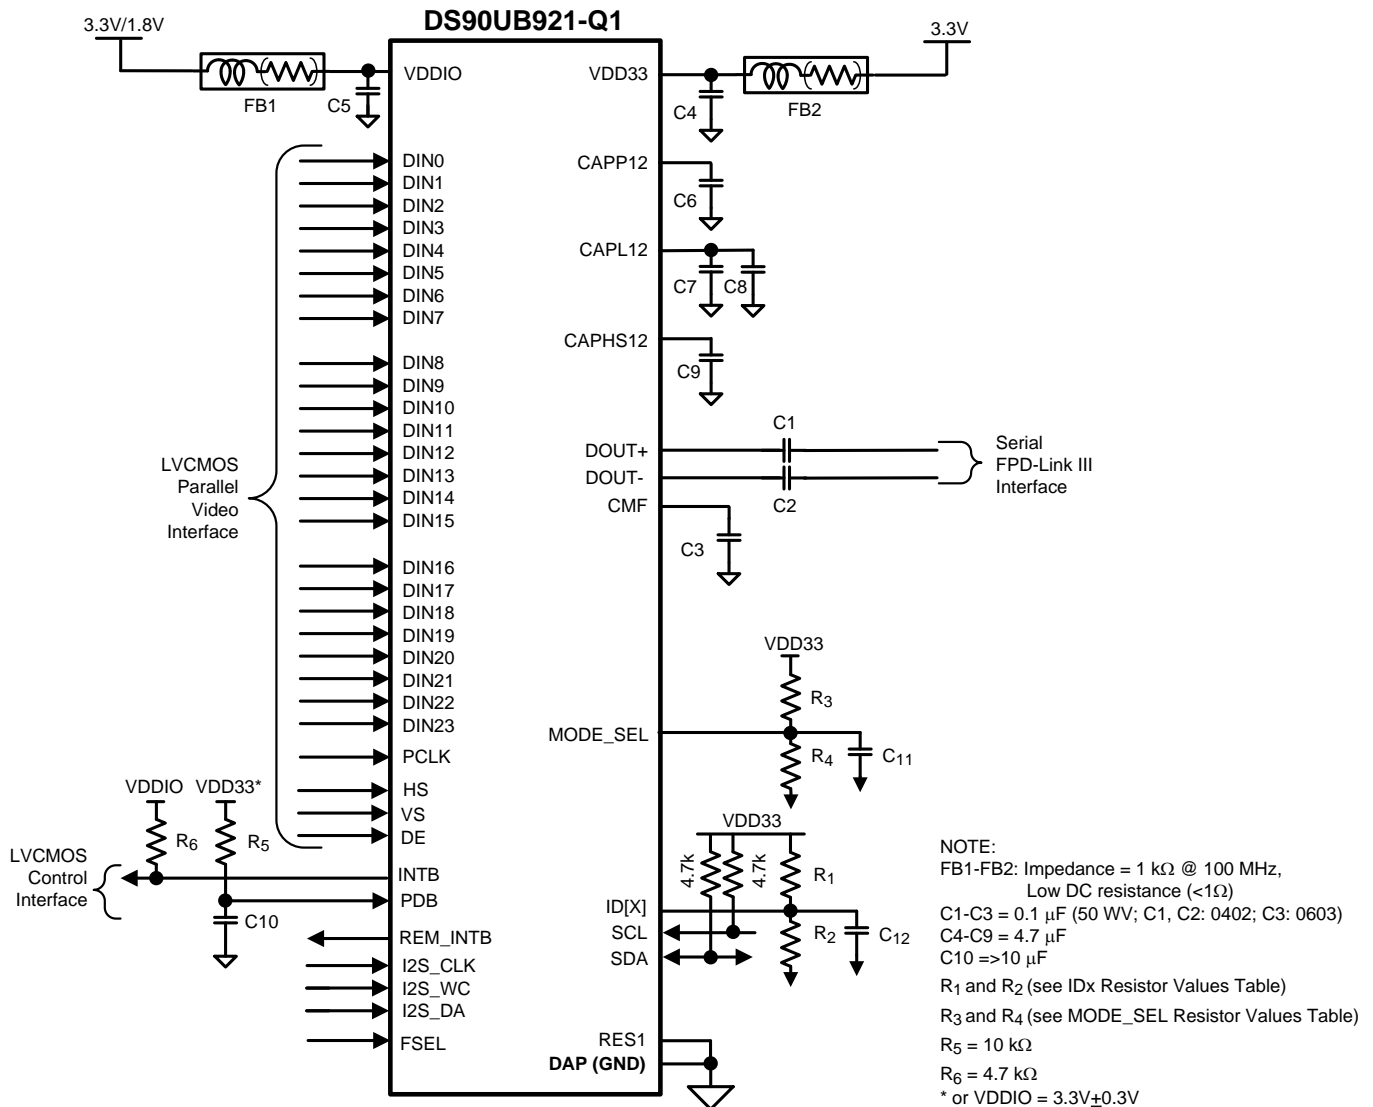

Figure 26. Typical STP Connection Diagram
Figure 26 shows a typical application of the DS90UB921-Q1 serializer for an 96 MHz 24-bit Color Display Application. The CML outputs must have an external 0.1 μF AC coupling capacitor on the high speed serial lines for STP applications and 0.33 μF / 0.15 μF AC coupling capacitors for coax applications. The same AC coupling capacitor values should be used on the paired deserializer board. The serializer has an internal termination. Bypass capacitors are placed near the power supply pins. At a minimum, six (6) 4.7 μF capacitors and two (2) additional 1 μF capacitors should be used for local device bypassing. Ferrite beads are placed on the two (2) VDDs (VDD33 and VDDIO) for effective noise suppression. The interface to the graphics source is with 3.3V LVCMOS levels, thus the VDDIO pin is connected to the 3.3 V rail.